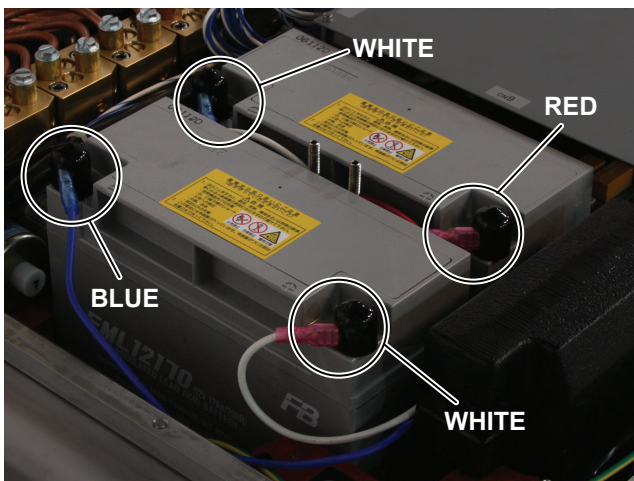

Figure 4-8. Battery Terminal Connect
7. Connect the correct wires to the battery terminals as shown in Figure 4-8.